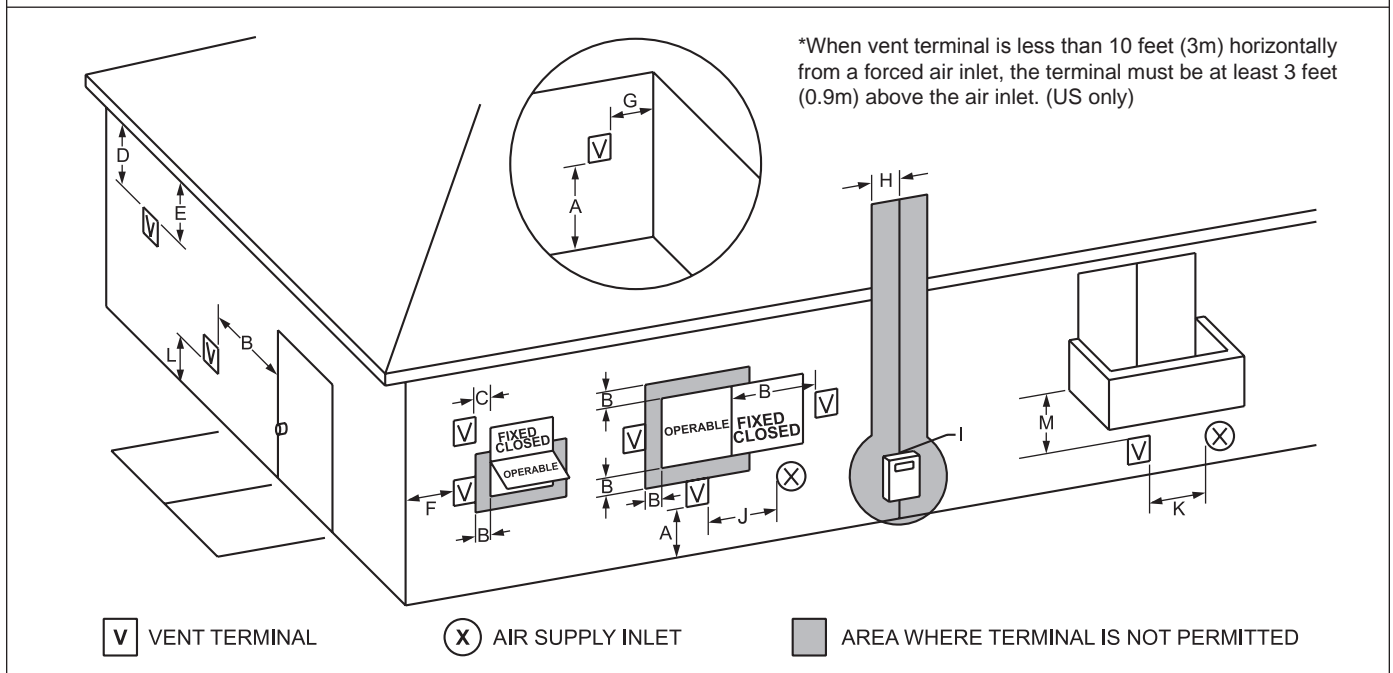
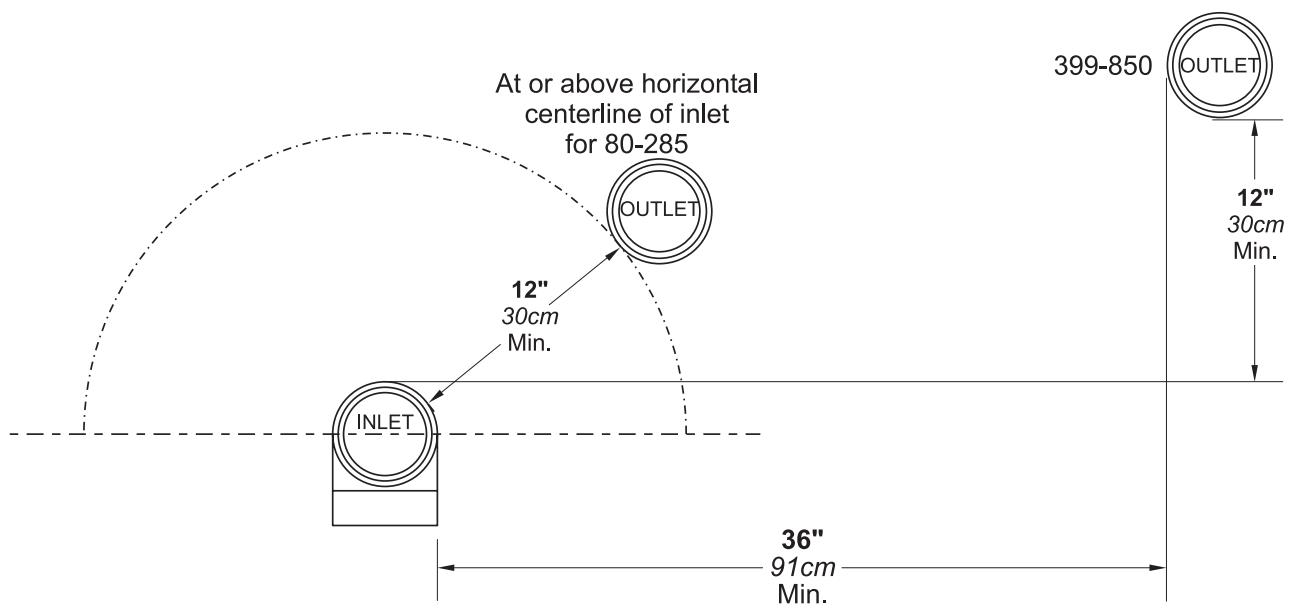

Figure 6. - Combustion Air and Vent Through Side Wall
Figure 7. - Minimum Venting Distance
1. **Figure 6** shows the requirements for mechanical vent terminal clearances for the U.S. and Canada.
7. If the boiler or water heater uses ducted combustion air from an intake terminal located on the same wall, see Figure 6 through Figure 7 for proper spacing and orientation.
The LAARS side wall combustion air terminal, or concentric terminal must be used when the heater takes air from a side wall. (See Table 7.) Contact Laars for AL29-4C termination fittings. Consider the following when installing the terminal. (See Figure 6 through Figure 7.)
7. The vent outlet for models 80-285 must be no lower than the center of the air inlet, and must be at least 12" (30cm) away from the air inlet. Vent outlets for models 399-850 must be at least 12" above the top of the air inlet, and must be at least 36" (90cm) horizontally from the air inlet. (See Figure 7.)